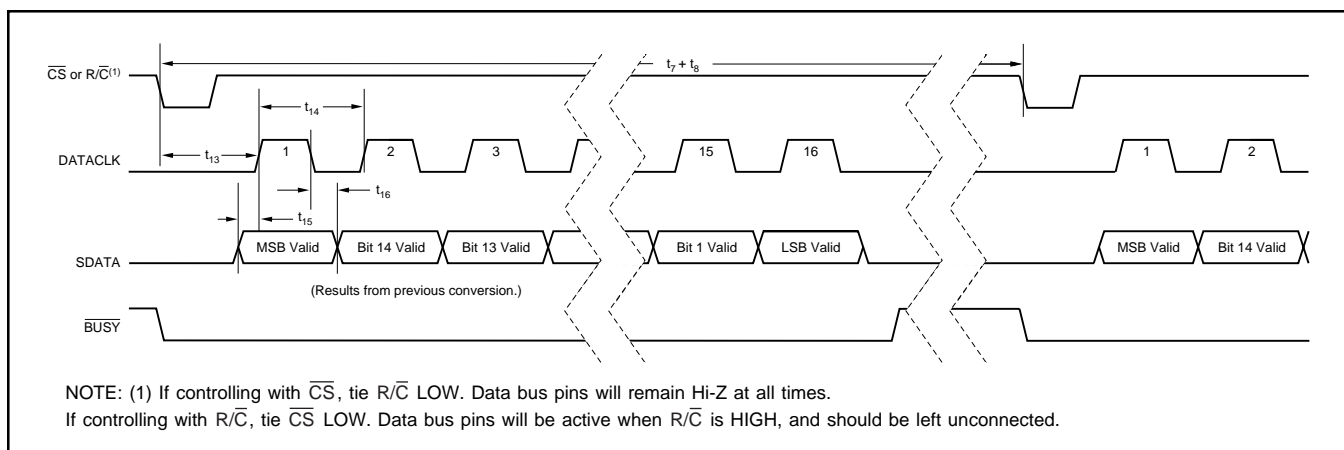

FIGURE 4. Serial Data Timing Using Internal Data Clock (TAG tied LOW).
NOTE: (1) See Figures 4, 5, and 6 for constraints on data valid from conversion 'n – 1'.
To use the internal data clock, tie $\text{EXT}/\overline{\text{INT}}$ (pin 8) LOW. The combination of $\overline{\text{R}/\overline{\text{C}}}$ (pin 22) and $\overline{\text{CS}}$ (pin 23) LOW will initiate conversion 'n' and activate the internal data clock (typically 900kHz clock rate). The ADS7807 will output 16 bits of valid data, MSB first, from conversion 'n-1' on SDATA (pin 19), synchronized to 16 clock pulses output on DATACLK (pin 18). The data will be valid on both the rising and falling edges of the internal data clock. The rising edge of $\overline{\text{BUSY}}$ (pin 24) can be used to latch the data. After the 16th clock pulse, DATACLK will remain LOW until the next conversion is initiated, while SDATA will go to whatever logic level was input on TAG (pin 20) during the first clock pulse. Refer to Table V and Figure 4.